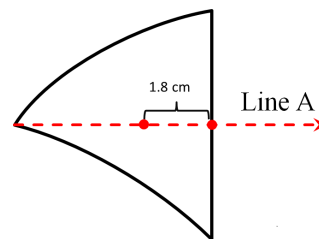

Figure 3
4. Following Line A, use the ruler to measure 1.8 cm inside the outline, from the flat side of the outline. Make a small mark, as in Figure 3.